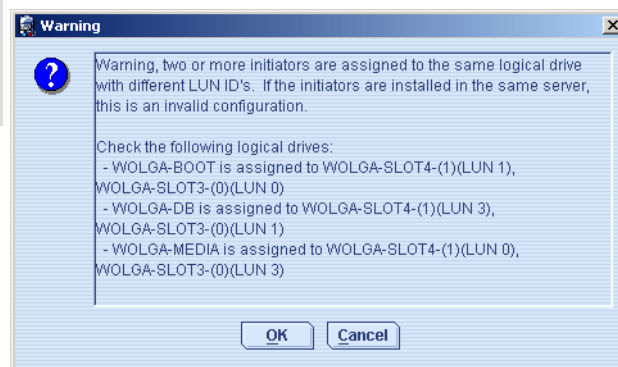

Figure 4-112 Warning about different LUN IDs assigned to multiple initiators
28. When the order of assigning the logical drives to multiple initiators is not the same, a warning is shown after clicking **Next**. Usually there is no need to assign the same logical drive to more than one initiator. This only makes sense when multiple host bus adapters are installed in a server, or cluster nodes are attached to the TotalStorage DS300 or DS400. The logical drives need to be removed from the initiators and assigned in the same order to all initiators. See Figure 4-112.